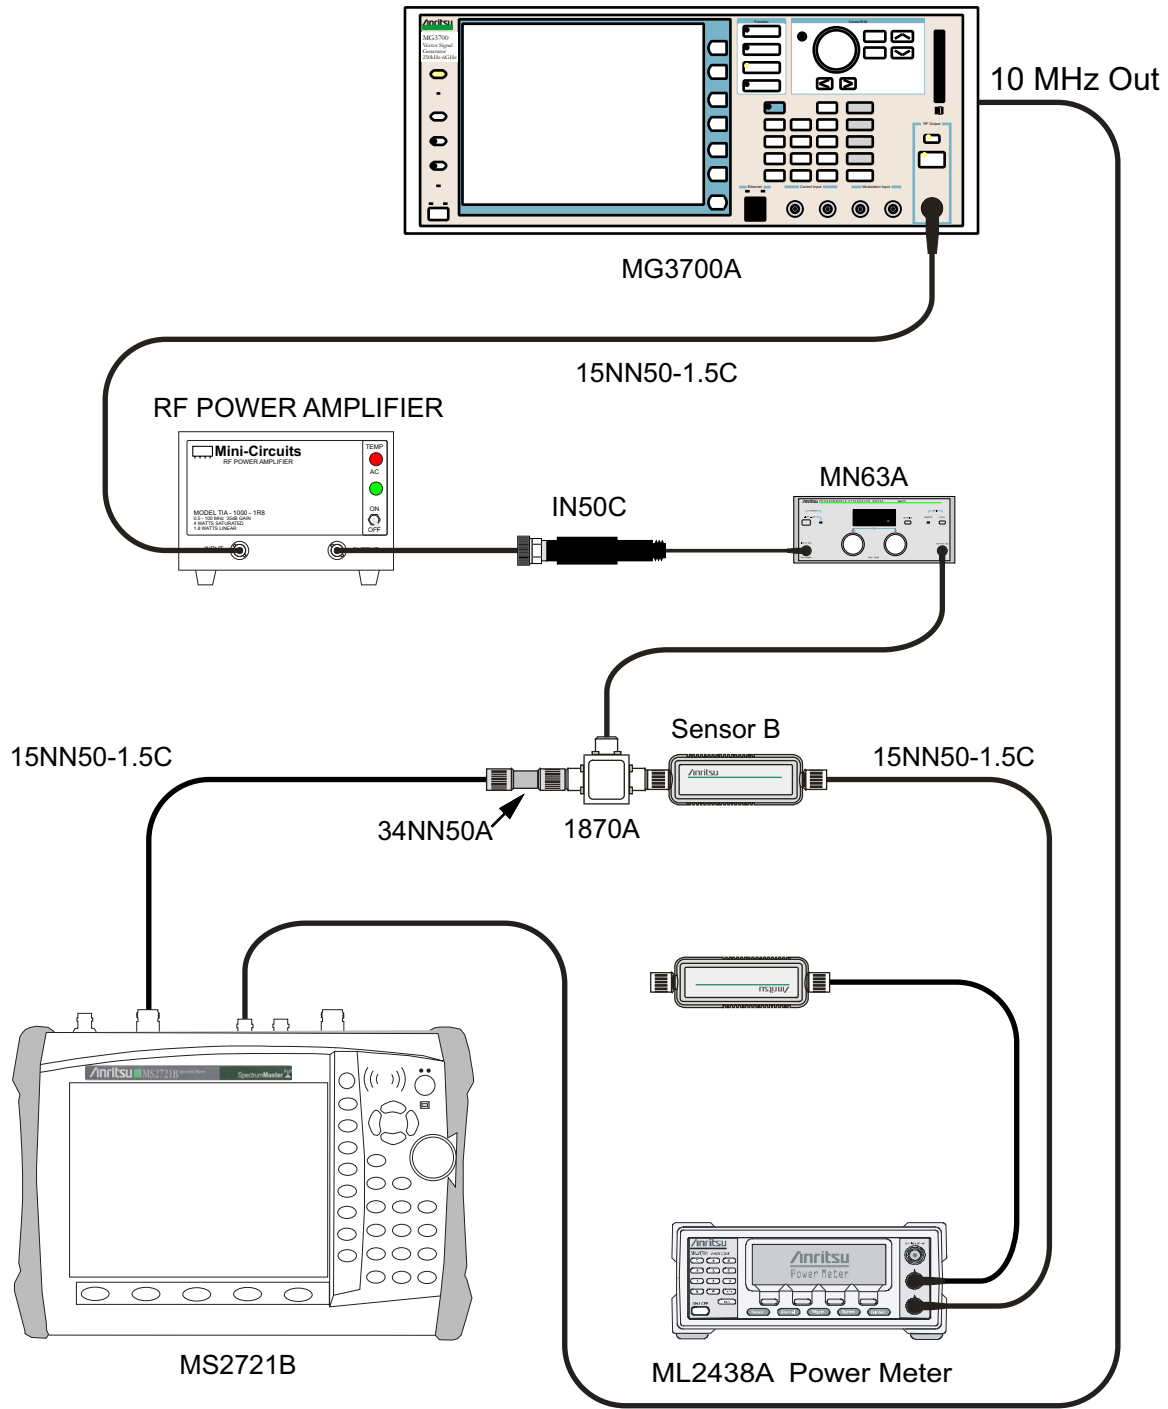

Figure 3-31. DVB-T/H SFN Option 78 – Level Accuracy Verification Setup – Sensor B Only
26. Remove Sensor A from the Power Splitter, and then connect the Power Splitter to the MS2721B Spectrum Analyzer RF In port with an N(m)-to-N(m) Adapter as shown in Figure 3-31.
59. Remove Sensor A from the Power Splitter and then connect the Power Splitter to the MS2721B Spectrum Analyzer RF In port with an N(m)-to-N(m) adapter as shown in Figure 3-31.
12. Remove Sensor A from the splitter and connect the MS2721B RF In port to the open end of the splitter using an adapter as shown in Figure 3-31, “DVB-T/H SFN Option 78 – Level Accuracy Verification Setup – Sensor B Only” on page 3-116.